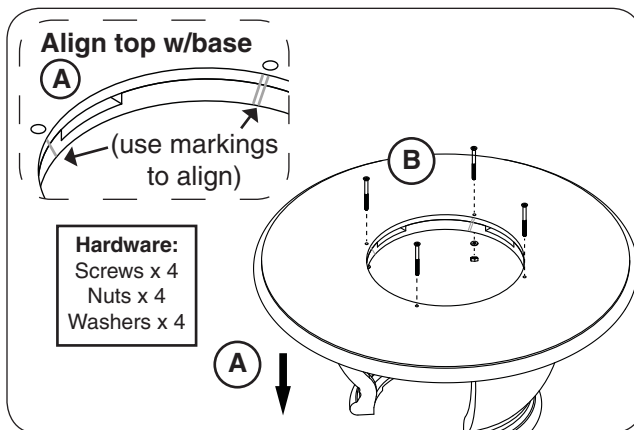

Fig. 19-3 Place top and fasten
3. **CAREFULLY** place the top on the unit, ensuring that the markings along its inner ring align with those found on the base (see Fig. 19-3, A).
4. Use a Phillips screwdriver and the supplied bolts (4), nuts (4), and washers (4) to fasten the top to the base as shown in Fig. 19-3, B.